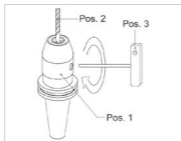

Figure 3: Clamping tool.
- Turn the pinion clockwise to the stop with the aid of the hex-wrench (see "Figure 3: Clamping tool." Pos. 3).